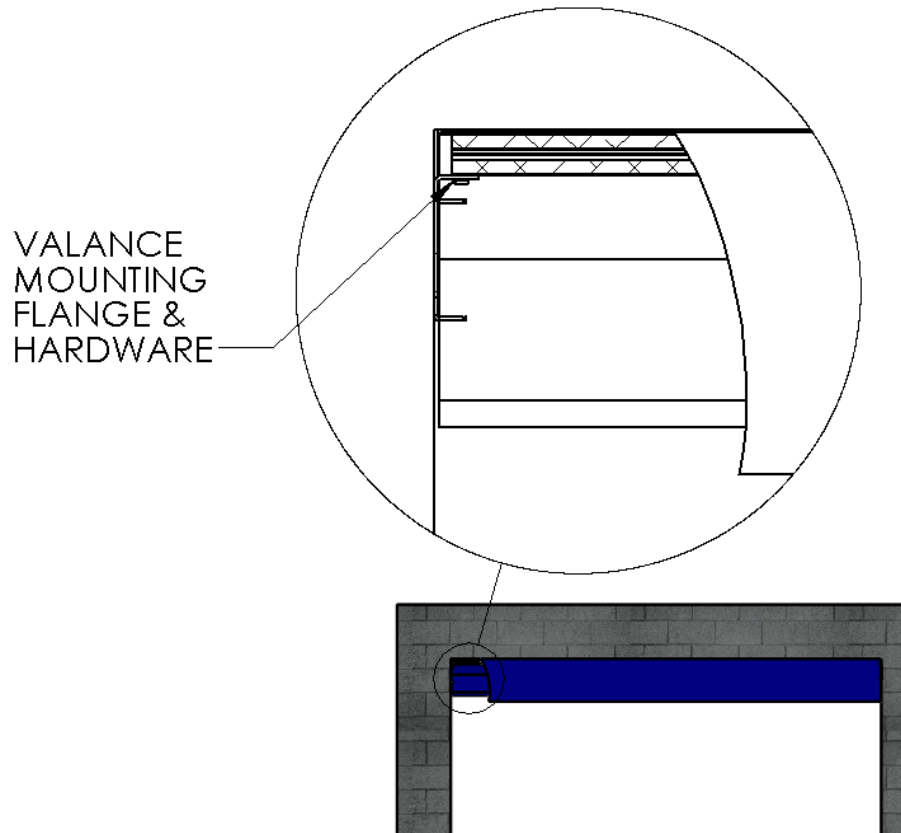

Figure 8 INSTALL VALANCE ASSEMBLY
1. Install the Valance Assembly onto the top of the bent flanges of the installed Header Mounting Brackets using the hardware provided in the Wall mounting Brackets. (Figure 8 INSTALL VALANCE ASSEMBLY)